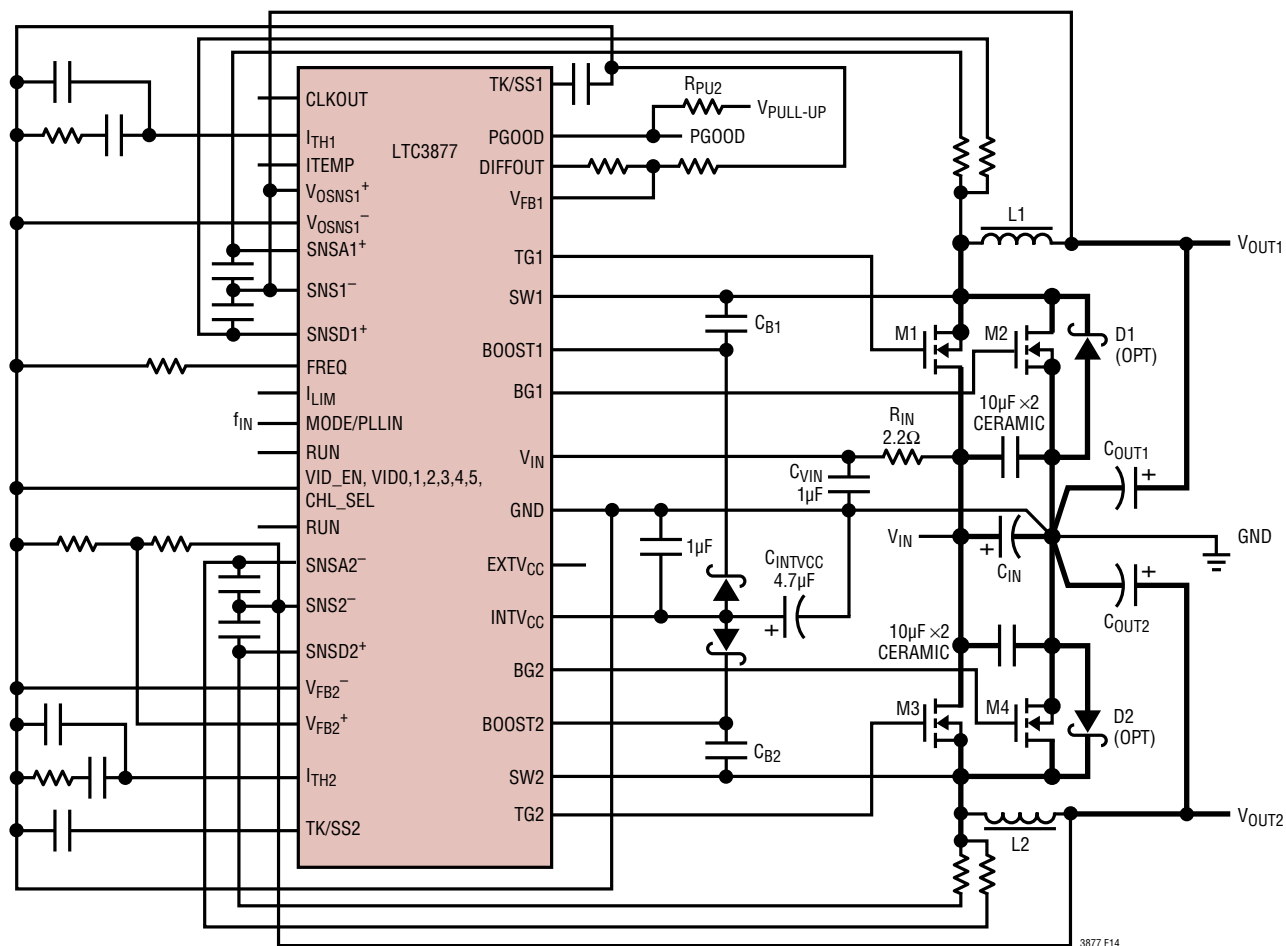
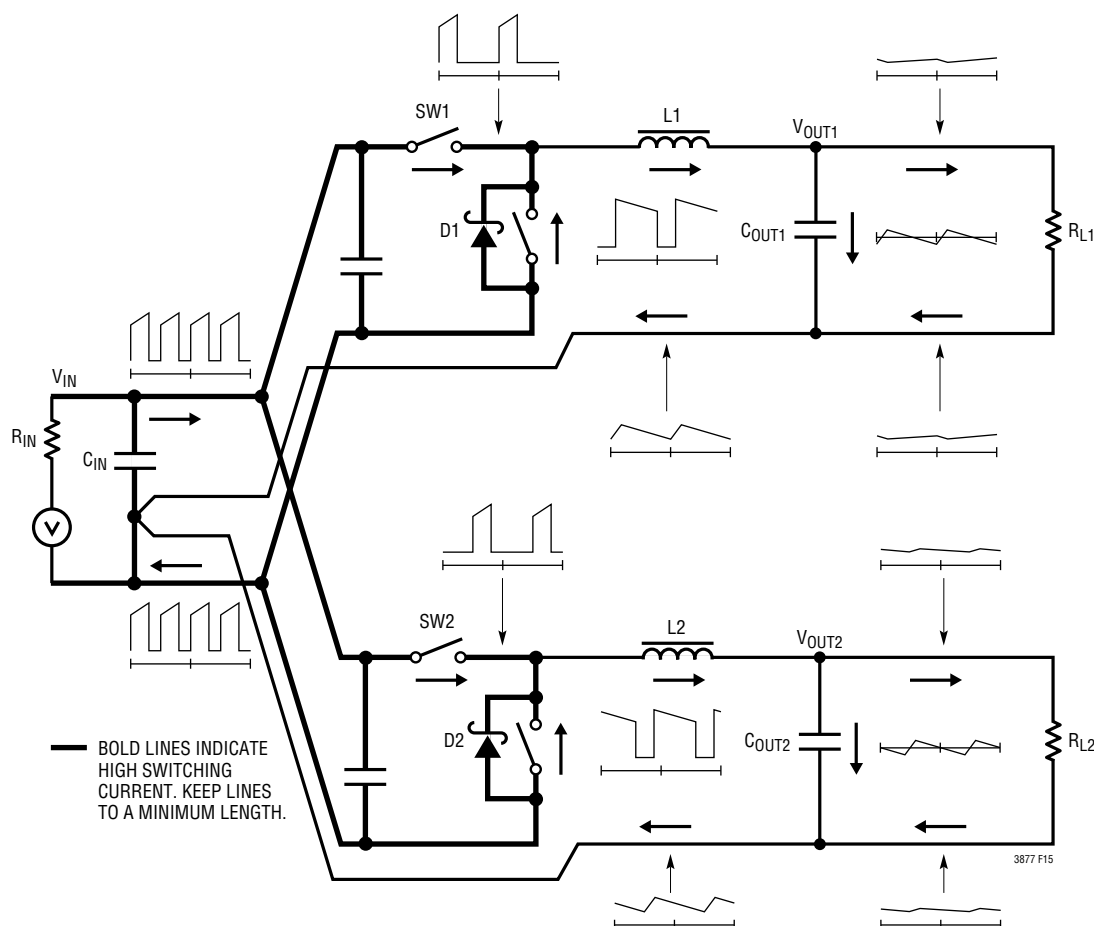

Figure 14. Recommended Printed Circuit Layout Diagram
Figure 15. Branch Current Waveforms
When laying out the printed circuit board, the following checklist should be used to ensure proper operation of the IC. These items are also illustrated graphically in the layout diagram of Figure 14. Figure 15 illustrates the current waveforms present in the various branches of a 2-phase synchronous regulators operating in continuous mode.
9. The 47pF to 330pF ceramic capacitor between the ITH pin and signal ground should be placed as close as possible to the IC. Figure 15 illustrates all branch currents in a switching regulator. It becomes very clear after studying the current waveforms why it is critical to keep the high switching current paths to a small physical size. High electric and magnetic fields will radiate from these loops just as radio stations transmit signals. The output capacitor ground should return to the negative terminal of the input capacitor and not share a common ground